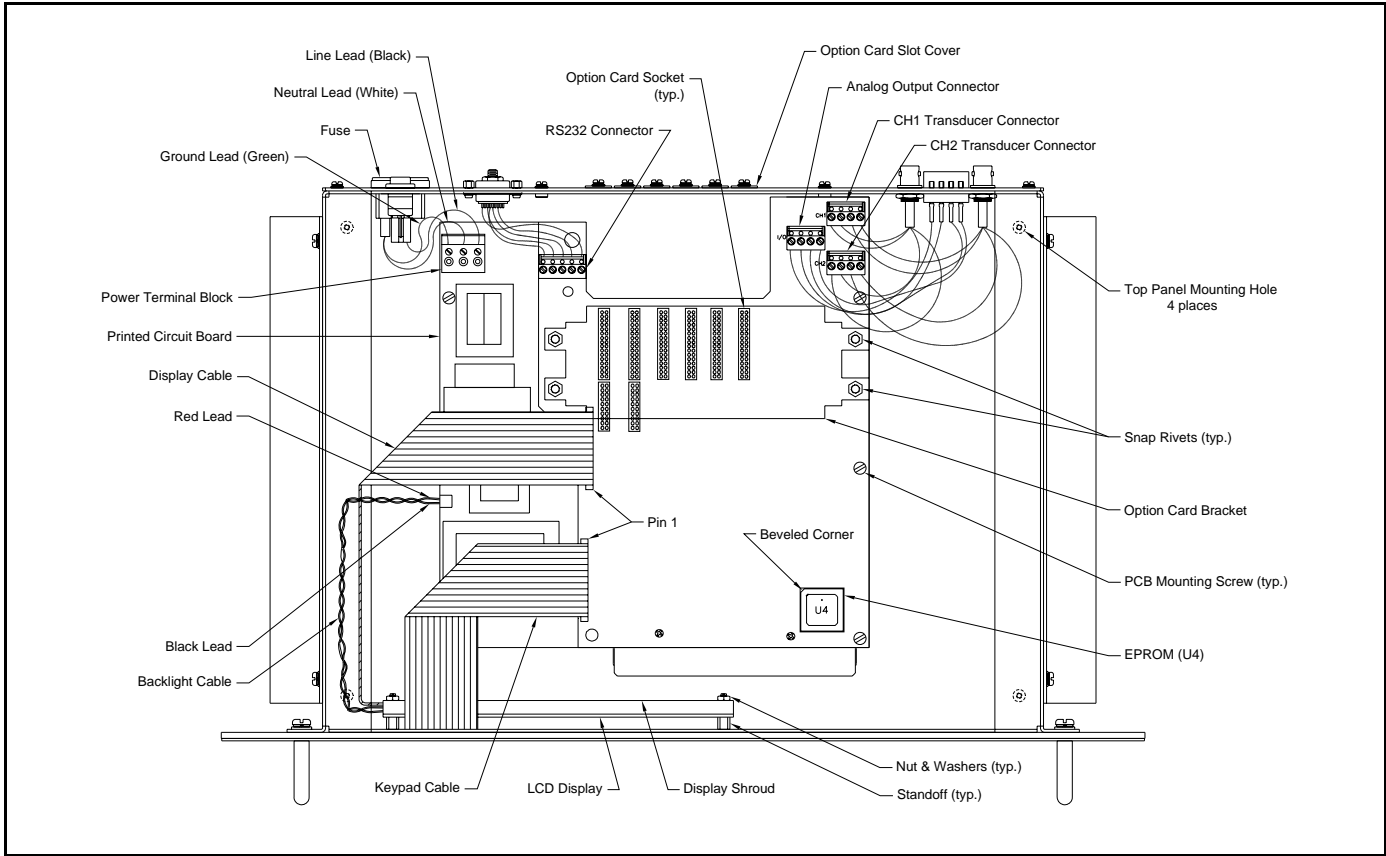

Figure B-2: Model GM668 Rack Mount Console Assembly - (ref. dwg #705-849)
Refer to Figure B-2 on page B-11 and complete the following steps:
EPROM replacement may be required to replace a defective chip or to upgrade to a newer software version. To replace the EPROM, refer to Figure B-2 on page B-11 and complete the following steps:
To replace the LCD display, refer to Figure B-2 on page B-11 and complete the following steps:
5. Install the RS232, ANALOG OUT and TRANSDUCER connectors onto the printed circuit board at the locations indicated in Figure B-2 on page B-11. Make sure the marked pin #1 sides of the connectors face the right side (keypad side) of the enclosure.